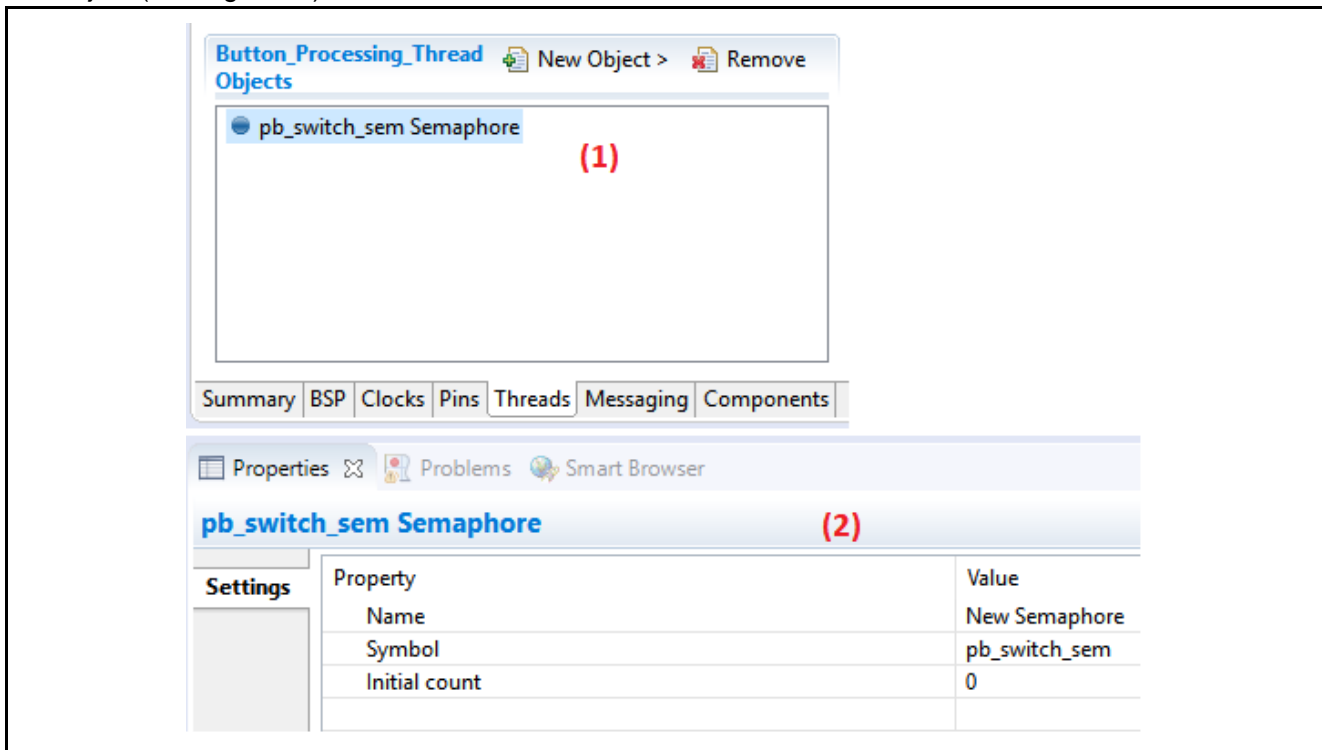

Figure 15. Button Thread Object Properties
- Click the **New Object** button in the **Button_Processing_Thread Objects** window. Create the thread object (see Figure 15).